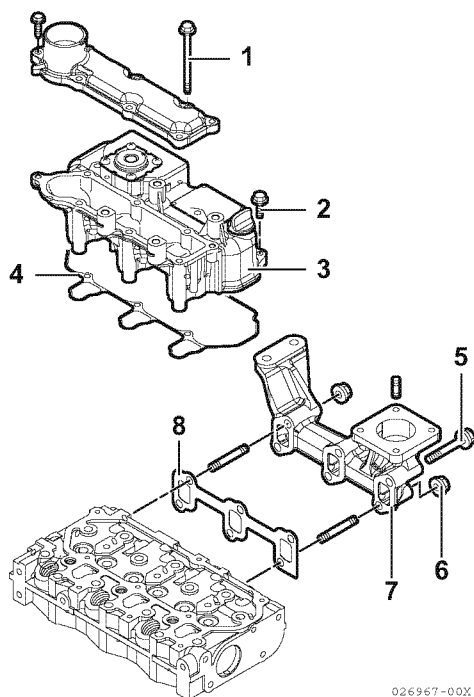

Figure 6-2
1. Remove the intake manifold bolts (Figure 6-2, (1)) and valve cover bolts (Figure 6-2, (2)).
2. Remove the valve cover/intake manifold (Figure 6-2, (3)). Discard gasket (Figure 6-2, (4)).
3. Remove the exhaust manifold bolts (Figure 6-2, (5)) and nuts (Figure 6-2, (6)). Remove the exhaust manifold (Figure 6-2, (7)) and the exhaust manifold gasket (Figure 6-2, (8)).